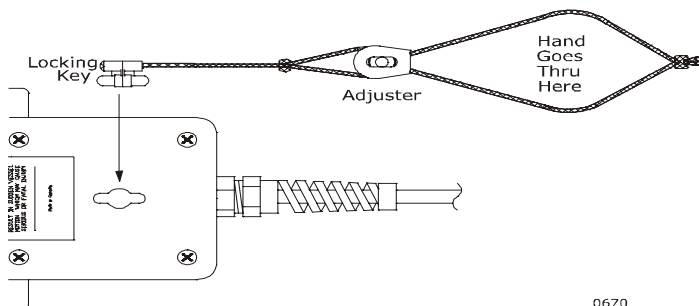

Figure 4: Safety Lanyard
The Handheld Unit is equipped with a Safety Lanyard with a **locking key**. This Safety Lanyard must be in place to allow operation of the Handheld. Refer to Figure 4:.
- C) Ensure the Handheld control knobs are in the vertical position and that the Safety Lanyard is attached (refer to “Figure 4:” on page 4).